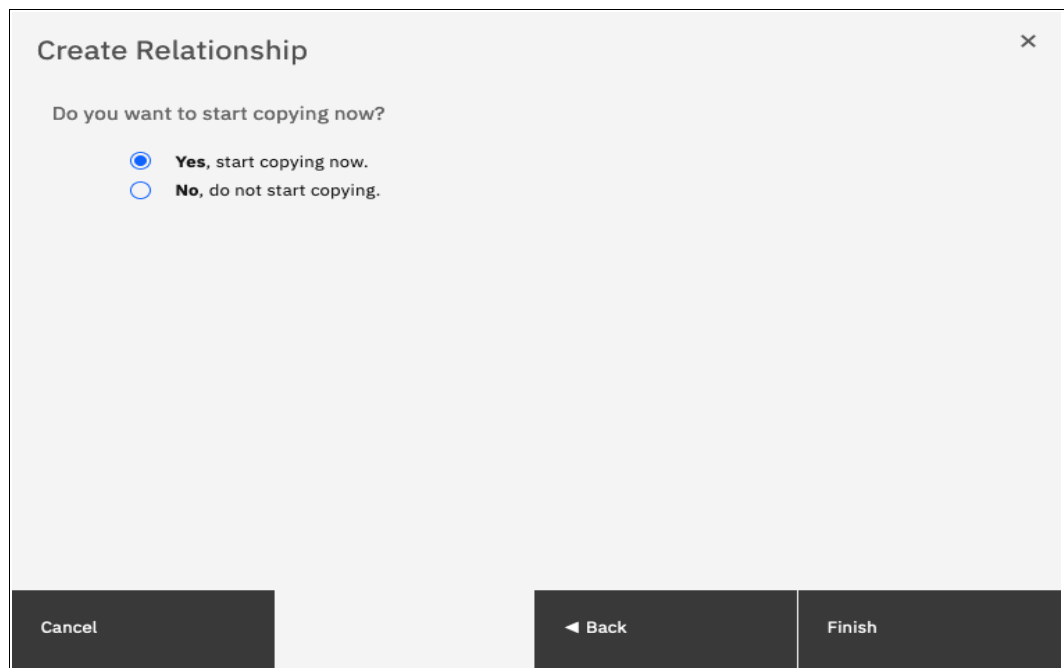

Figure 10-122 Start copying the Remote Copy relationship
11. Select whether you want to start synchronizing the Master and Auxiliary volumes at the time of creation of the relationship or start the copy later, as shown in Figure 10-122. Click **Finish**.